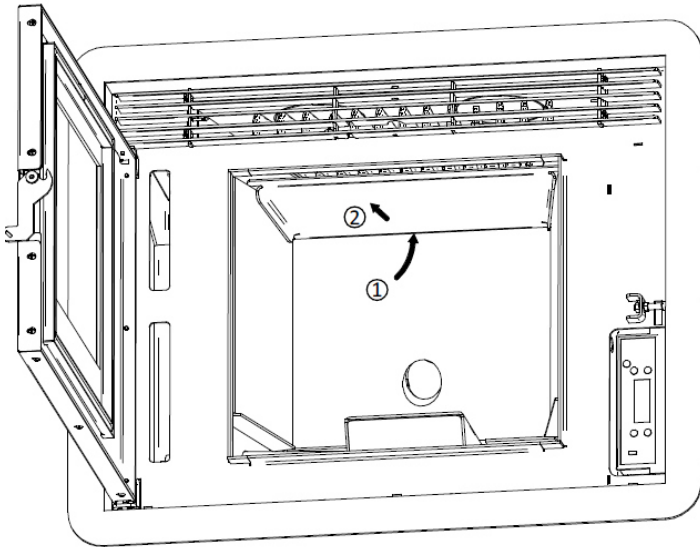

Figure 46 - Removal of the baffle plate
- To remove the baffle plate that is installed in the upper part of the combustion chamber, it will be necessary to move the first one slightly upwards (movement 1 of Figure 46) in the anterior part of it, then sliding it over the vermiculite.